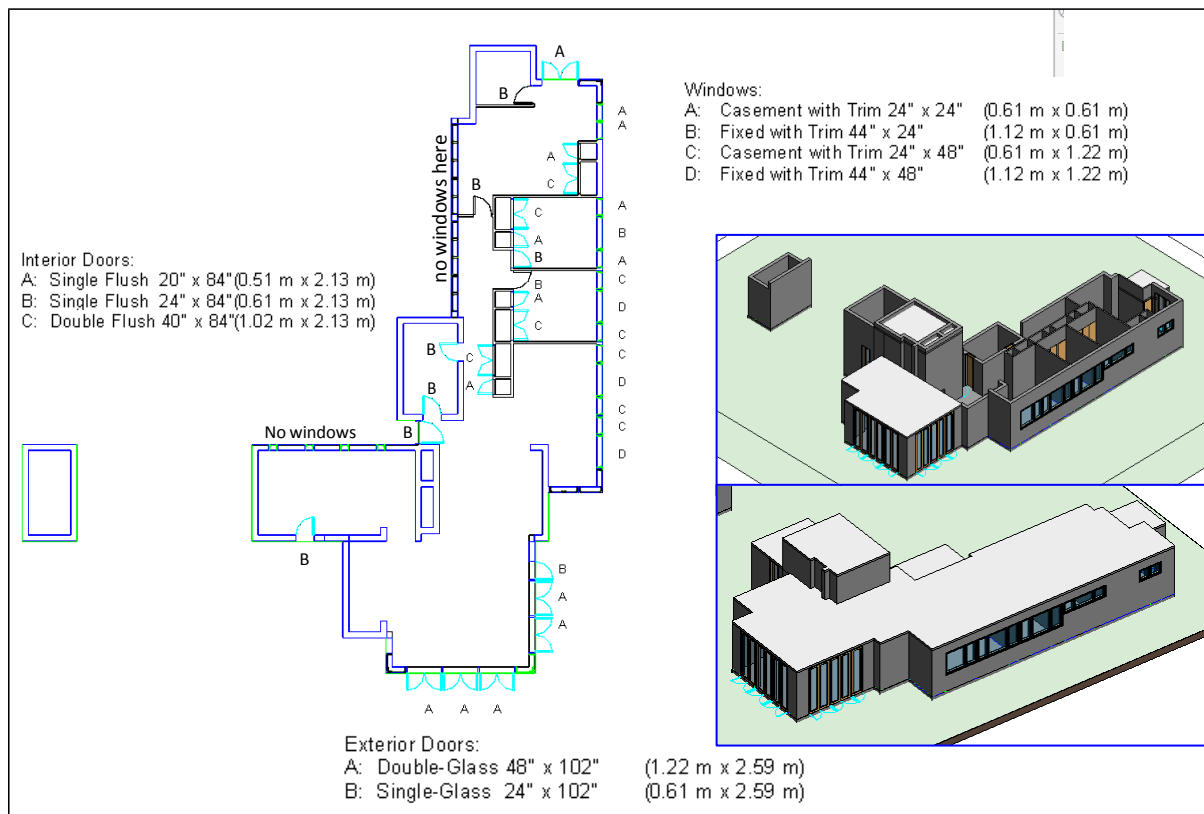

Figure 1. Window and Door Types
- The door and window types and sizes needed are shown in the legend in Figure 1 below.